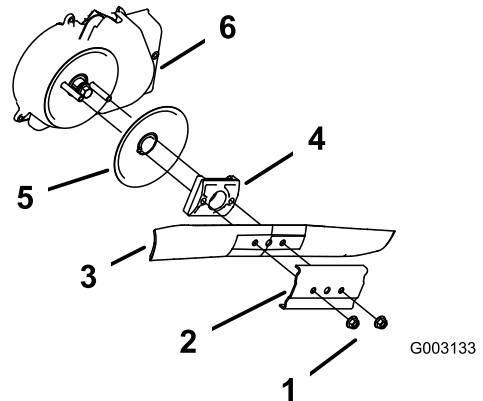

Figure 39
3. Remove the 2 blade nuts and the stiffener (Figure 39).
4. Remove the blade (Figure 39).
5. Remove the blade driver and disk (Figure 39).
6. Remove the blade brake clutch shield (Figure 39).
10. Install the blade and the stiffener that you previously removed (Figure 39).